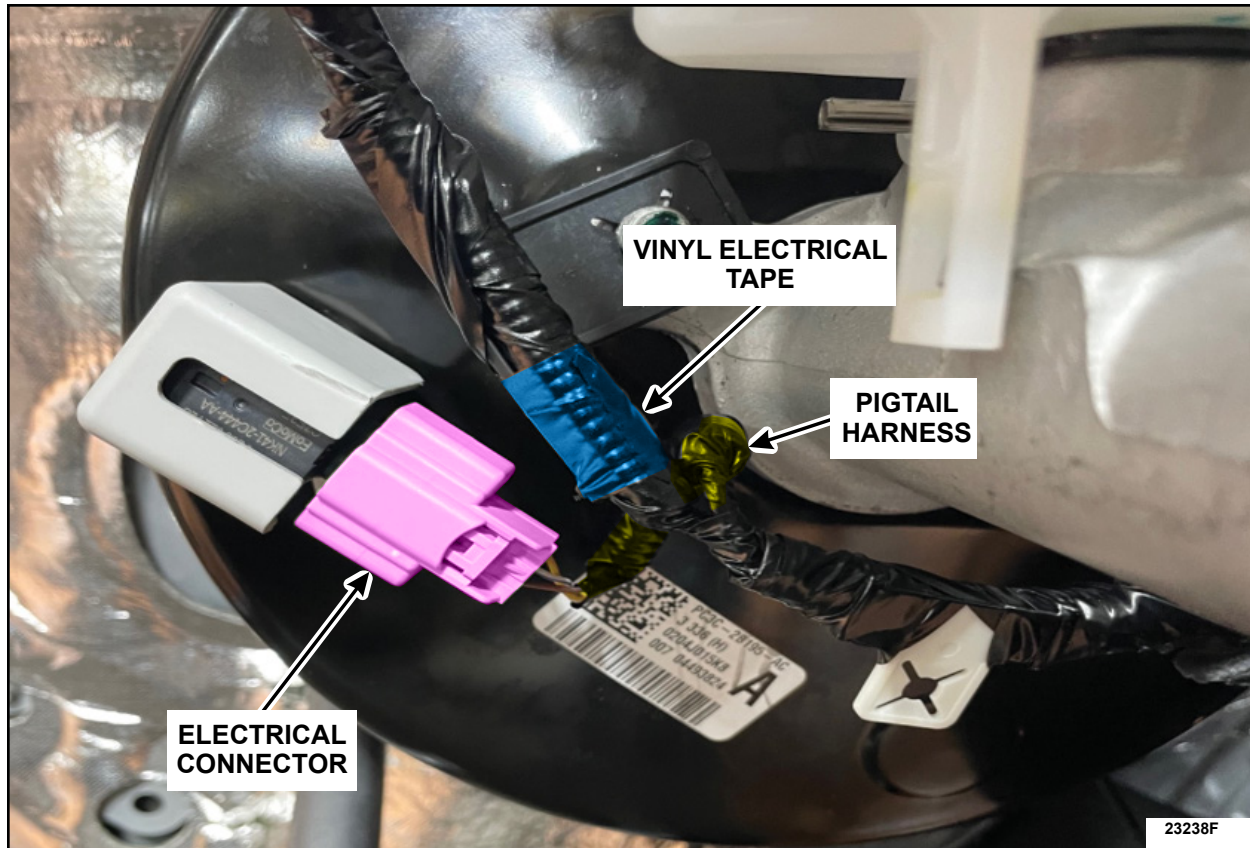

FIGURE 6
6. Connect the electrical connector and secure the pigtail harness using vinyl electrical tape, so that it does not rub or make contact with the brake lines. See Figure 6.